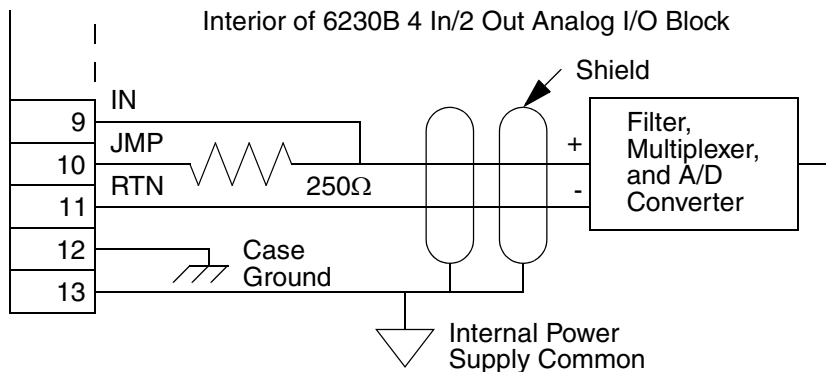

Figure 54. Terminals for Input 1 of the 6230B 4 In/2 Out Analog I/O Block
Each input circuit has an Input (IN), Jumper (JMP), and Return (RTN) terminal as shown in Figure 54. Case ground and internal power supply common terminals are shared between two adjacent inputs. For example, inputs 1 and 2 share the internal power supply common at terminal 13 and case ground at terminal 12.